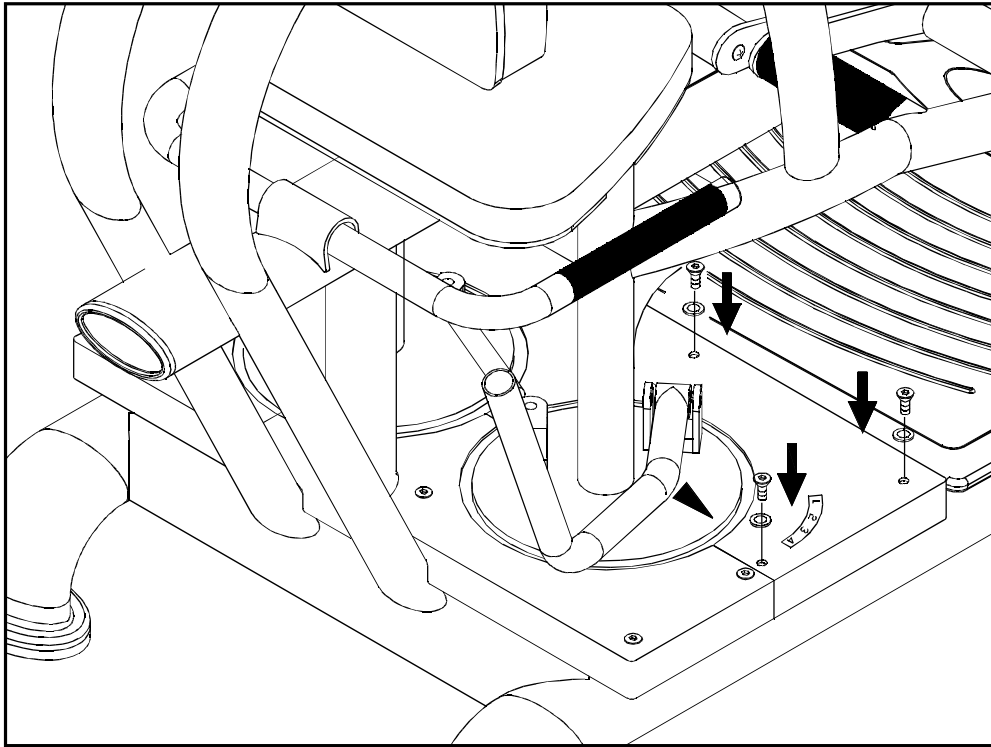

Fig.5
5. Assemble the plate and secure screws by hex key wrench as shown in Fig.5.